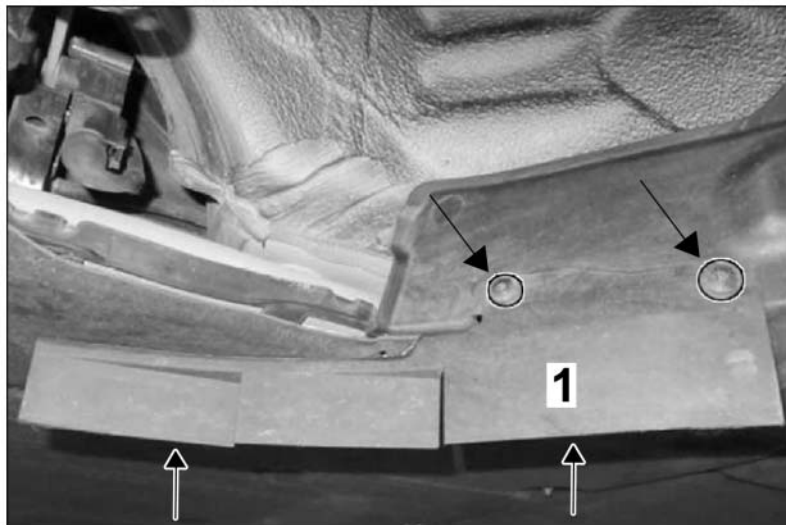

Figure 32
- 5.1.1 Remove tapping screws (4 pcs. ⇒ *Figure 32-Arrows-*) on air control elements (transition from underbody to wheelhouse ⇒ *Figure 32-1-*) on the left/right side.